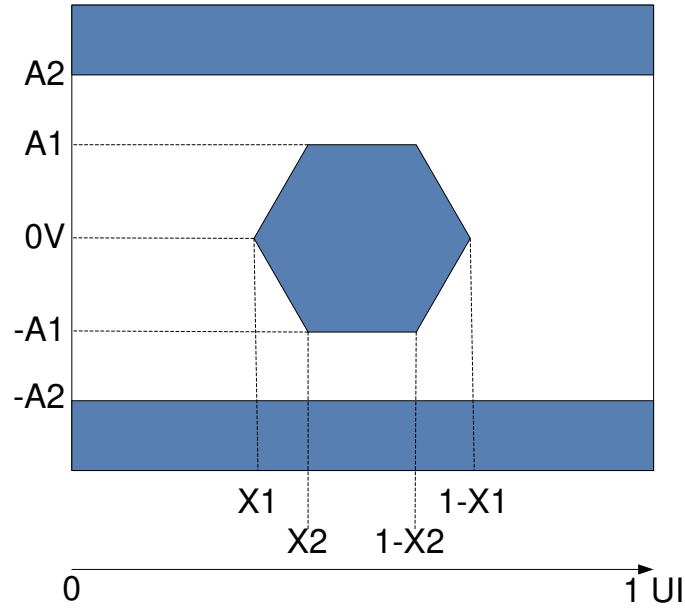

图 6-12. HSSI Eye Characteristics
- (1) All power supply connections are required to operate the DMD: V_{DD}, V_{D_{DA}}, V_{OFFSET}, V_{BIAS}, and V_{RESET}. All V_{SS} connections are required to operate the DMD.
- (2) All voltage values are with respect to the ground pins (V_{SS}).
- (3) To prevent excess current, the supply voltage delta | V_{D_{DA}} - V_{DD} | must be less than specified limit.
- (4) To prevent excess current, the supply voltage delta | V_{BIAS} - V_{OFFSET} | must be less than specified limit.
- (5) Supply power dissipation based on 3 global resets in 200 μs.
- (6) LVC MOS input specifications are for pin DMD_DEN_ARSTZ.
- (7) LVC MOS output specification is for pins LS_RDATA_A and LS_RDATA_B.
- (8) Refer to Figure 6-12 (1e-12 BER).
- (9) Defined in Recommended Operation Conditions.